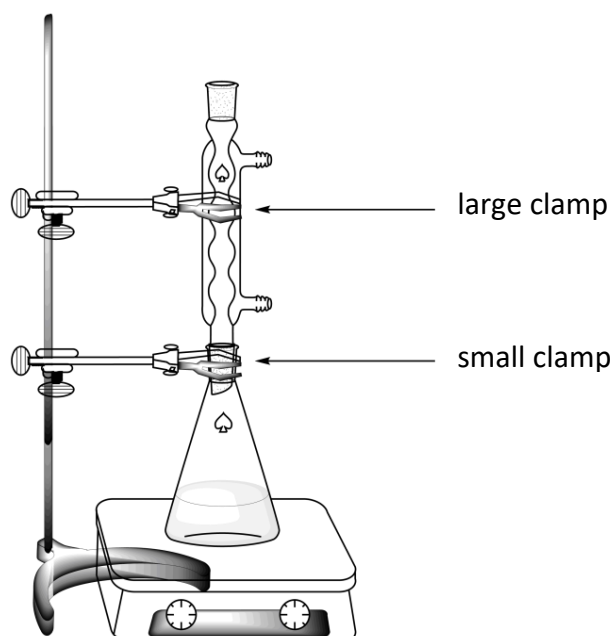

Figure 1. Setup for heating the reaction mixture under reflux
- Attach** the reflux condenser by loosening the large clamp and adjusting the ground joints (see Figure 1). **Raise** your HELP card. A lab assistant will come to turn on the water and set the hotplate.
2. **Perform** the recrystallization of the crude product contained in the 50 mL ground joint Erlenmeyer flask with the appropriate amount of this water/ethanol mixture, using the same setup as for the reflux heating (*see Figure 1*). **Raise** your HELP card. A lab assistant will come to turn on the water and set the hotplate. **Add** the solvent by the top of the condenser, if needed.